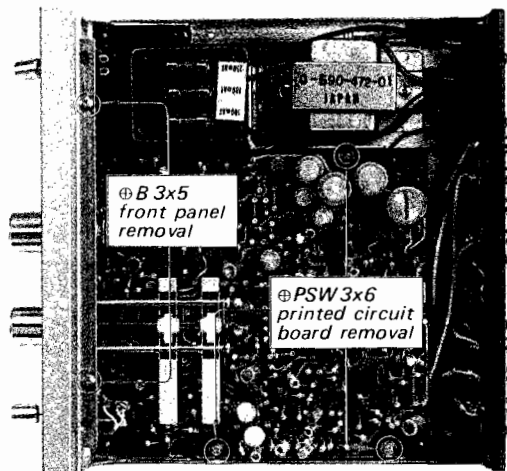

Fig. 2-3. Printed circuit board removal
3. Remove the three screws securing the PCB to the chassis as shown in Fig. 2-3. This frees the printed circuit board.